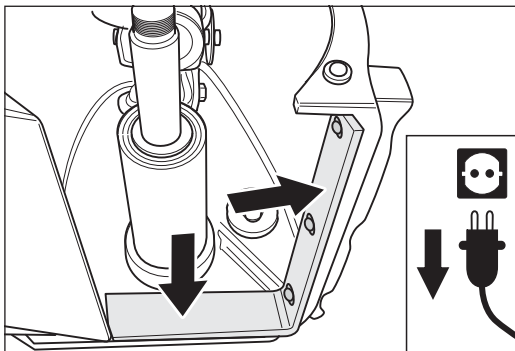

Fig. 85 The sealing felt must not demonstrate any signs of damage, otherwise replace!
- Ensure that the sealing felt is not worn or damaged (fig. 85)!